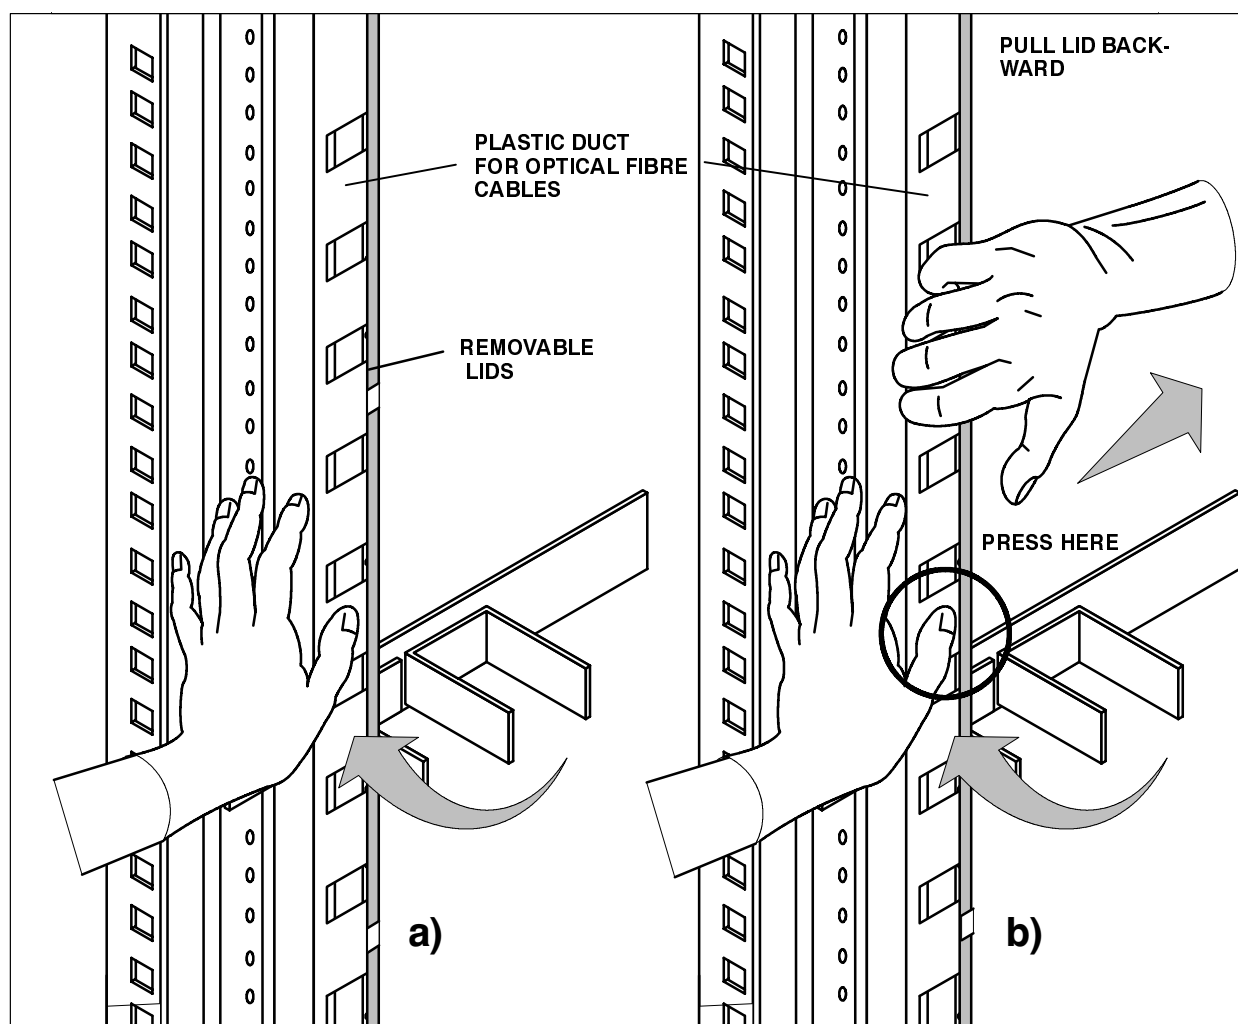

Fig. CC-23 Opening optical fibre plastic duct
3. Remove the front cover of the plastic raceway on the left-hand side of the rack by proceeding as follows (see Fig. CC-23).: